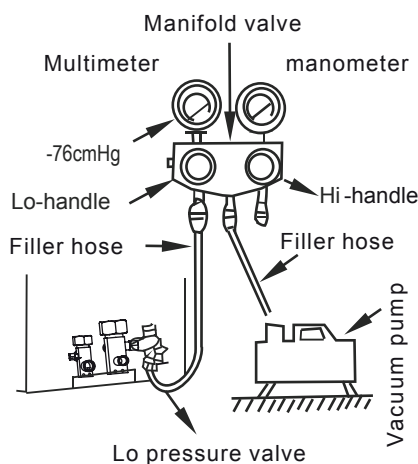

Fig. 6-3
- Use a vacuum pump to expel the air (Fig. 6-3): (For method of using the manifold valve, see the operation manual of manifold valve)